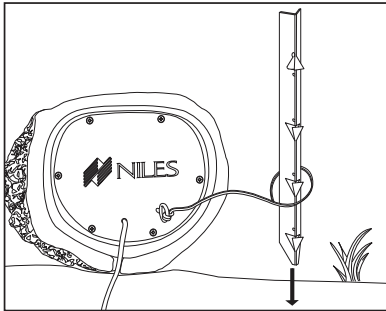

Figure 11.
5. Feed the Security Stake through the loops at the end of the security cable and ensure that they are inserted into the cable holder provided at the top of the stake, as shown in **Figure 11**.